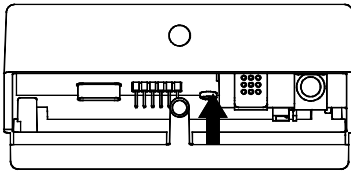

Fig. 4
- 2** Turn the cover, while pressing it slightly, until it is fully extracted (Fig. 4).